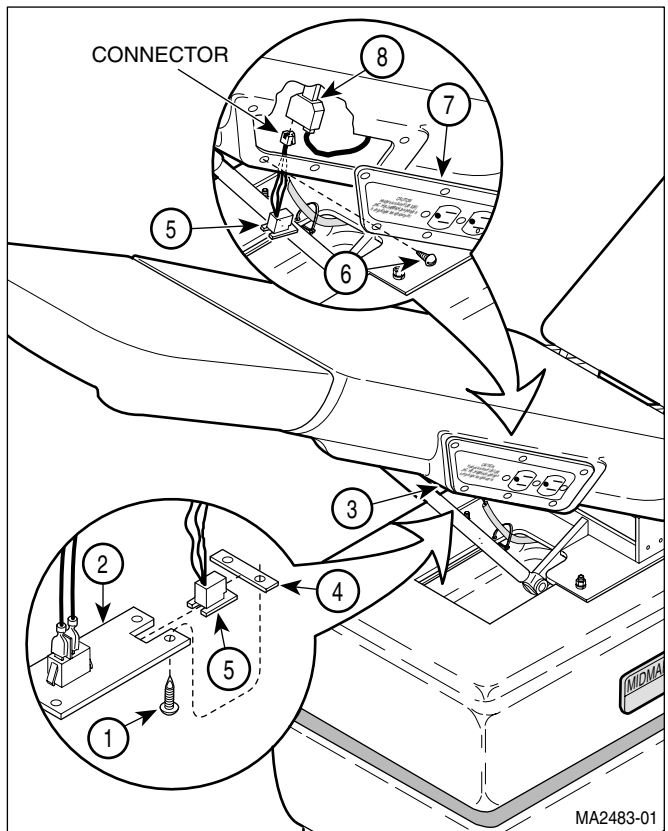

Figure 4-5. Hand Control Plug-In Port
- (1) Unplug power cord from wall outlet.
- (2) Remove four screws (1, Figure 4-5) and partially separate control cover (2) from plastic seat section (3).
- (3) Remove clip (4) and hand control port (5) from control cover (2).